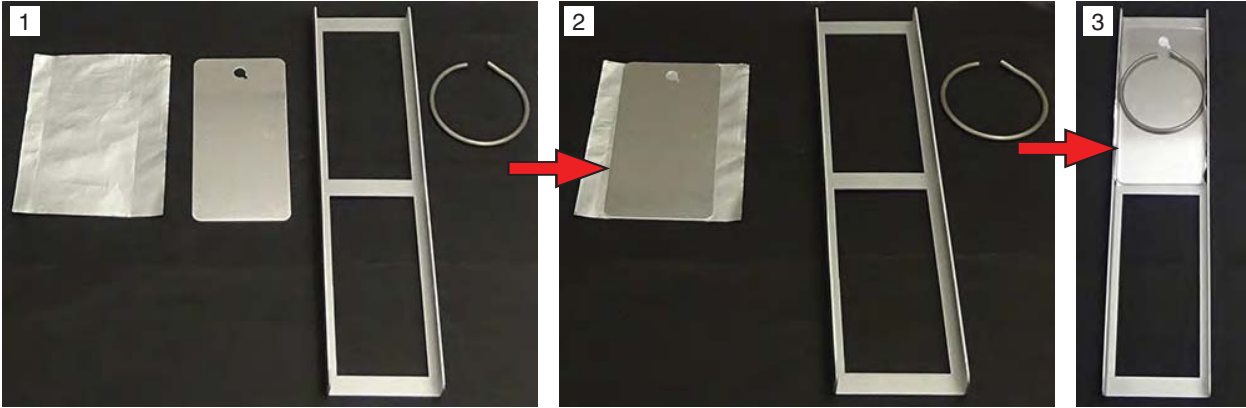

Figure 11.4o: Thin film mounted in panel holder.
- Thin films and textile specimens can be wrapped around a standard panel and mounted in a holder (Figure 11.4o).